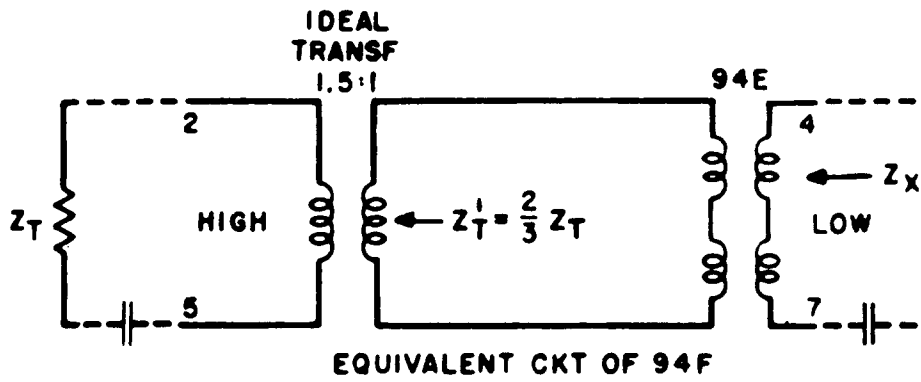

FIG. 2
1.03 The input impedance  $Z_X$  looking into the low side of the 94F coil, as indicated in Fig. 2, is obtained by entering the appropriate chart with the value of terminating impedance  $Z_T' = \frac{2}{3} Z_T$ . The input impedance looking into the high side, as indicated in Fig. 3, is given by  $Z_X = 1.5 Z_X'$  where  $Z_X'$  is the value of input impedance obtained from the chart for a terminating impedance  $Z_T$ .
1.05 The following examples illustrate the computations for two conditions. Determine the impedance at 1000 cps looking into (1) the low side, and (2) the high side of a 94F repeating coil terminated in half section 22-gauge H88 cable, with a 4 mf capacitor on the line side and a 1 mf capacitor on the drop side.
Example (1) - Looking into low side of 94F coil. (See Fig. 2)